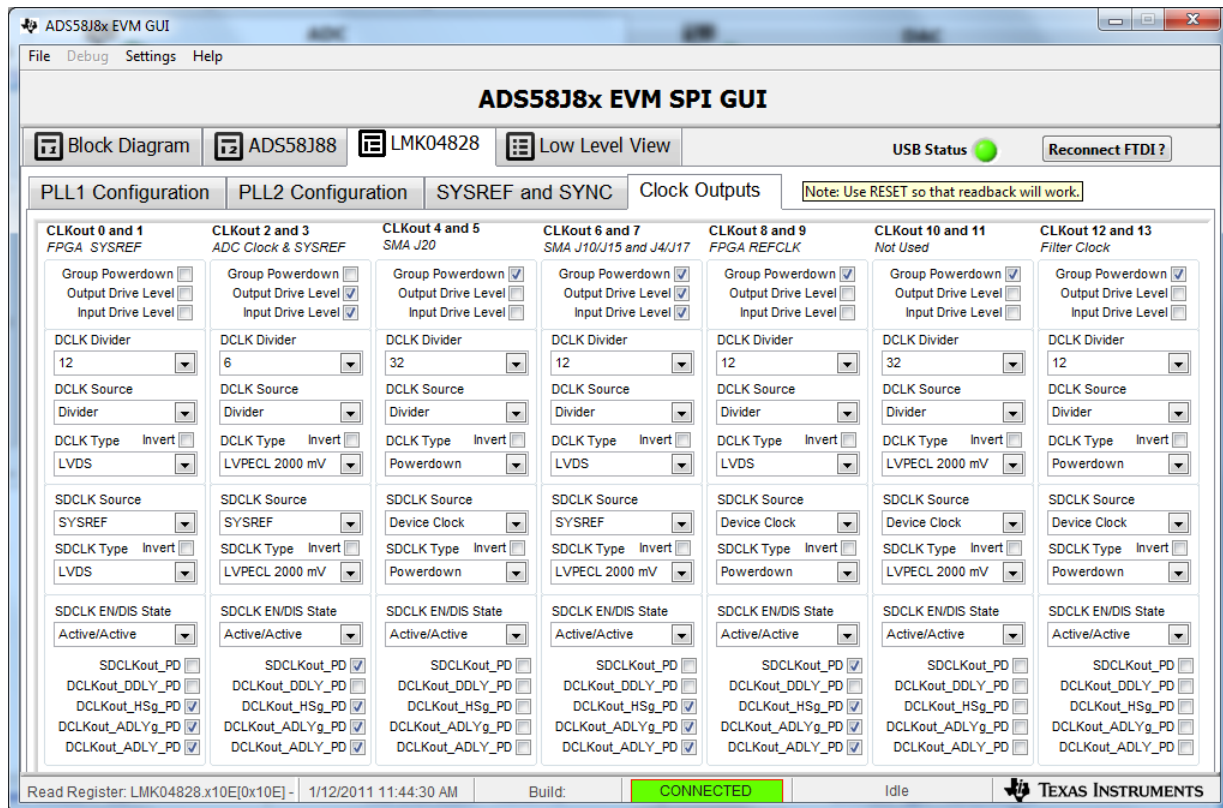

Figure 8. LMK04828 Clock Outputs Tab
Clicking *Clock Outputs* opens the LMK04828 Clock Outputs tab, shown in Figure 8. This tab is organized into 7 sections representing the 7 pairs of DCLK/SYSREF that the LMK04828 can generate. For each of the 7 pairs of DCLK/SYSREF there are a number of controls that apply to both outputs, such as the option to power down the pair of signals completely if not needed. For both DCLK and SYSREF there is an option to select what type of output driver is to be used, such as LVDS or LVPECL. There are controls to enable things like delay or inversion. For the DCLK, there is a control to select a divider ration to divide the PLL2 VCO clock down to the desired output frequency. For example, if the ADS58J89 EVM is to be operated at 500Mps then the configuration file supplied with the GUI will select the 3.0GHz VCO and select a divider ratio of 6 to generate a 500-MHz DCLK. If the TSW14J56 capture card is used, the TSW14J56 needs to see a DCLK reference that is one-twentieth the line rate of the serial data stream so the divider ratio chosen is 12 to generate a 250-MHz DCLK to the FMC connector. These two divider ratios can be seen in Figure 8.
9. Since a periodic SYSREF signal acts as a sub-harmonic clock of the converter sampling clock and may have spurious effect on the converter performance, it may be turned off during normal operation once synchronization has been achieved. Click on the tab labeled *LMK0428 Clock Outputs* located at the top of the GUI. Check the control for SDCLKout\_PD in the block of controls for clocks CLKout 2 and 3. (See figure 8) This will power down the SYSREF to the ADS58J89. The SYSREF must be running initially in order to establish a JESD204B link between the ADS58J89 and the FPGA on the TSW14J56 but after initialization the SYSREF is no longer needed and may result in clock spurs coupling into the ADS58J89, reducing performance.